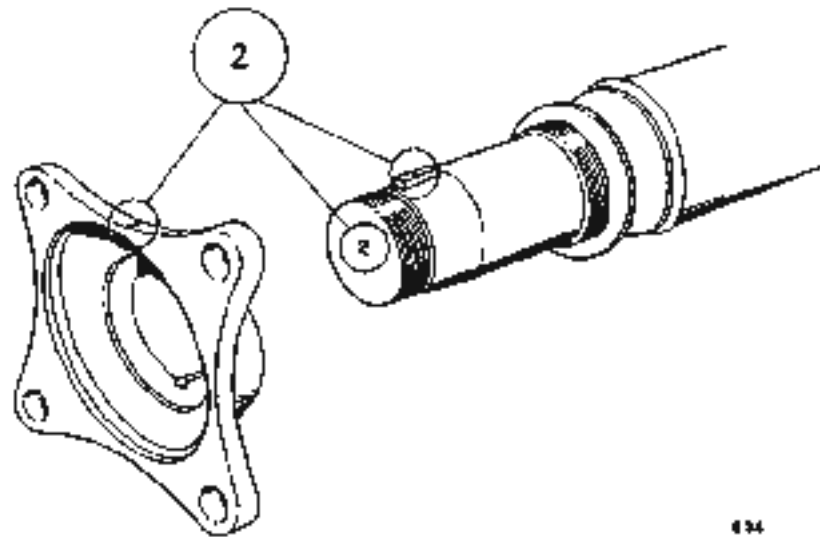

Fig. F3 Position of correlation marks on the front propeller shaft
Correlation marks (2) are stamped on the rear flange of the front shaft, the rear end of the front shaft and on one of the Woodruff keys which locate the flange on the shaft (see Fig. F3).
To remove the centre ball bearing, the flange must be unlocked and pushed or drawn from the keyed, tapered end of the shaft. Ensure that correlation marks (2) are stamped on the end of the shaft, the flange and the Woodruff key, as shown in Figure F3. Remove both Woodruff keys from the shaft and the spring-loaded washer from the grease retainer.